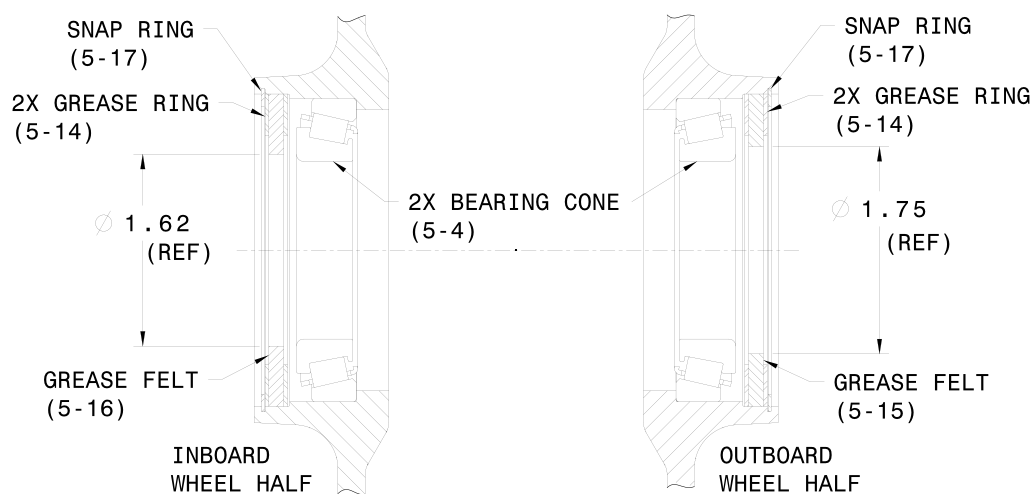

Figure 3 Main wheel assembly grease seal components
- d. Refer to Figure 3 and install the following components.